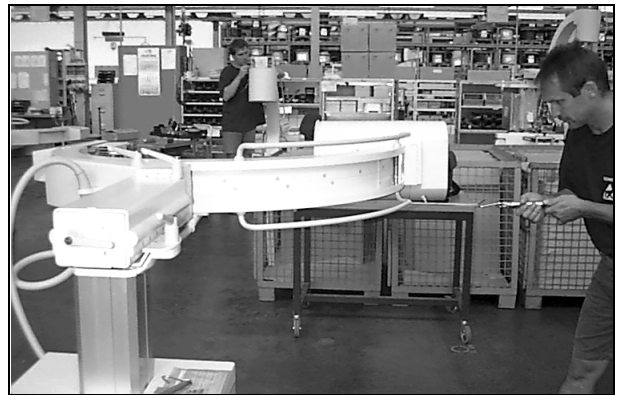

Fig. 19
- Move the C-arm into the horizontal position (Fig.19).
- Measure the braking force with a (20N) spring scale for the released brake and a (200N) spring scale for the applied brake from the handle grip end to the image intensifier. (Fig.19);